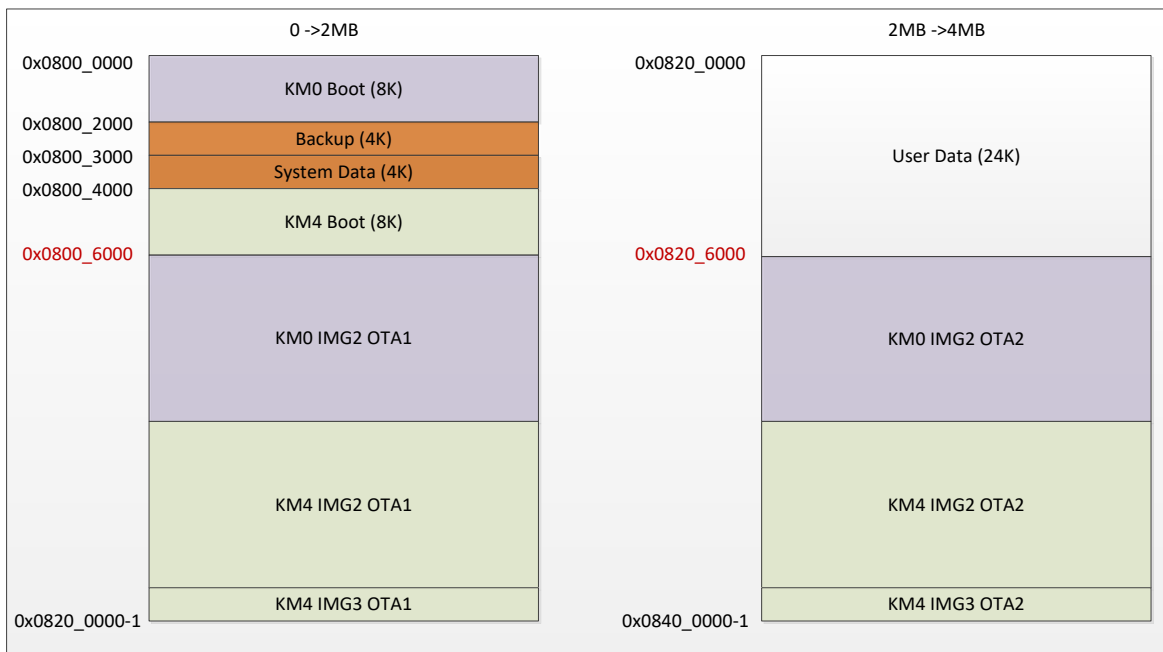

Fig 9-4 4M Flash program layout example
For 4M Flash, an example of Flash layout is illustrated in Fig 9-4. In this example, 2024K Flash size can be used for KM0 & KM2 image, and you can modify the layout according to your actual conditions. Because bootloader will be called by ROM code, the address of bootloader cannot be changed. Other addresses except bootloader can all be changed by user, but before you change these addresses, make sure that you are familiar with Ameba-D system and SDK.
- (1) Modify **OTA\_Region** in rtl8721d\_bootcfg.h, change OTA2 region start address according to your actual Flash layout. When using 4M Flash program layout example as shown in Fig 9-4, OTA region should be modified as below:
- (2) Modify OTA address definition in rtl8721d\_ota.h, redefine **LS\_IMG2\_OTA2\_ADDR** macro according to your actual Flash layout. When using 4M Flash program layout example as shown in Fig 9-4, OTA address should be modified as below:
- (1) For BT FTL start address, re-define **ftl\_phy\_page\_start\_addr** variable in rtl8721dhp\_intfcfg.c, note that SPI FLASH address base 0x0800\_0000 is subtracted when calculating **ftl\_phy\_page\_start\_addr** variable, and **ftl\_phy\_page** will consume 3\*4=12KB Flash starting from **ftl\_phy\_page\_start\_addr**. When using 4M Flash program layout example as shown in Fig 9-4, BT FTL start address should be modified as below:
- (2) For Wi-Fi fast connect profile address, redefine **FAST\_RECONNECT\_DATA** macro in platform\_opts.h, and SPI FLASH address base 0x0800\_0000 is subtracted when calculating **FAST\_RECONNECT\_DATA** macro. Note that Wi-Fi fast connect profile address should not recover the 12KB Flash starting from **ftl\_phy\_page\_start\_addr**, as this region is reserved for BT FTL. When using 4M Flash program layout example as shown in Fig 9-4, Wi-Fi fast connect profile address should be set to 0x202000+0x3000=0x205000.